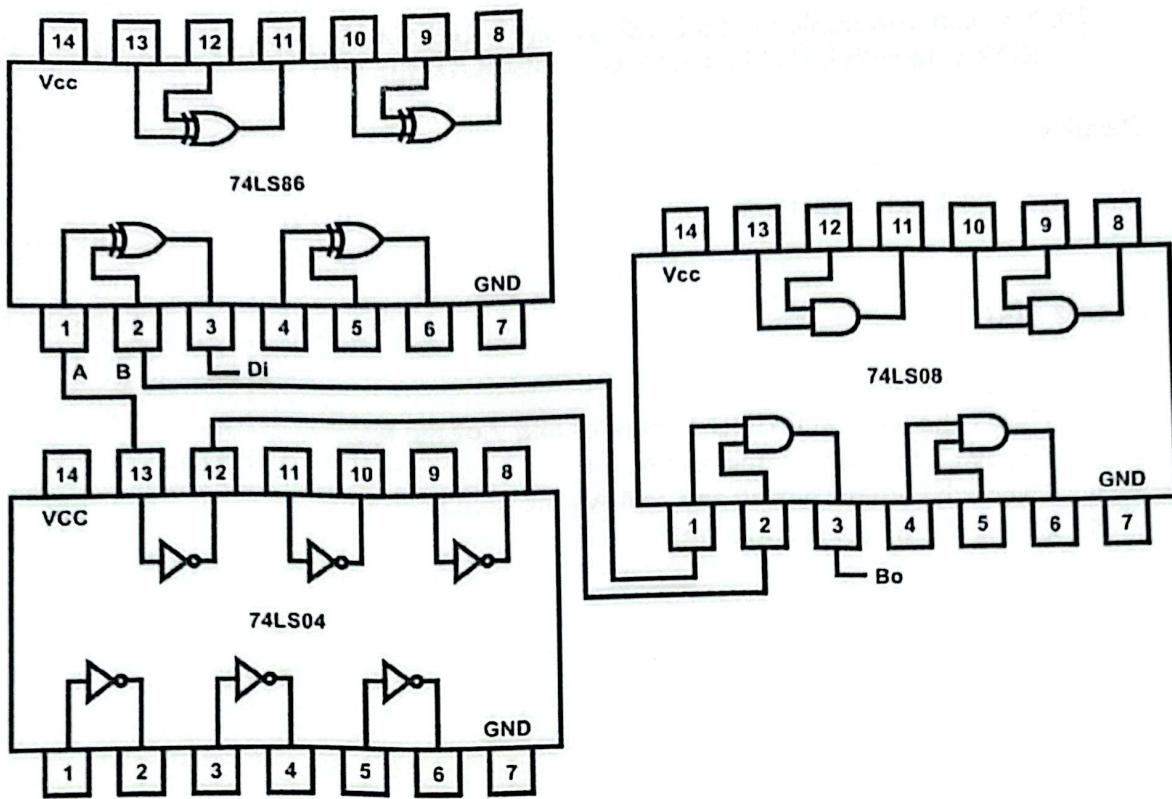

Fig. 11.2
4. Wire the circuit according to the diagram in figure 11.2.